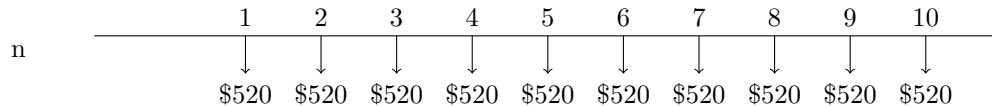

Figure 1: Cash flow for heating system energy costs
1. Draw a cash flow diagram for your current system as shown in Figure 1.